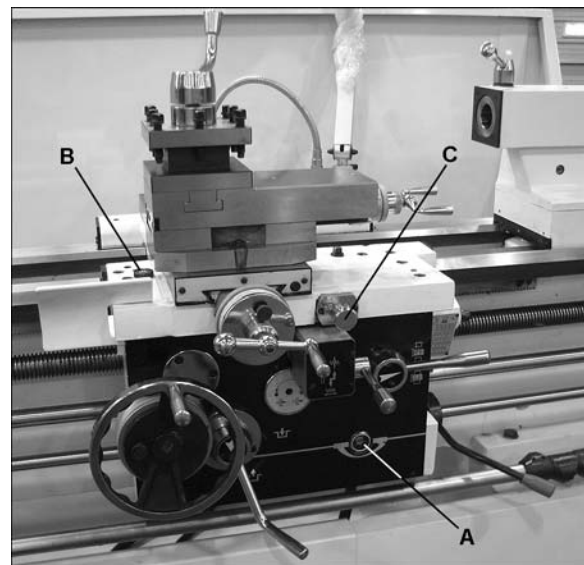

Figure 10
4. **Apron** – Oil must be between indicator marks in the oil sight glass (A, Figure 10). Top off with SAE 20W. Remove oil plug (B, Figure 10) to fill. To drain, remove drain plug on bottom of apron.
Drain oil completely and refill after the first three months of operation. Then, change oil in the apron annually. Pull knob (C, Figure 10) on the one-shot lube system and hold for several seconds to allow oil to fill the pump. When the knob is released, oil will flow through various oil lines to lubricate the ways and cross slide surface. Perform this twice daily or as needed. When the oil level is below the indicator mark, oil must be added.